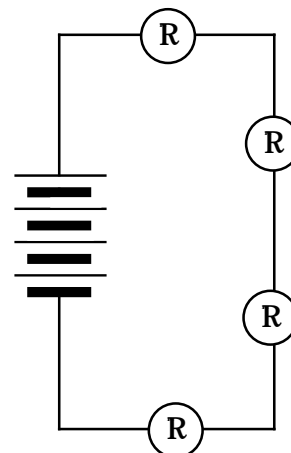

Figure 5.1
Set up the circuit shown in Figure 5.1 using four D-cells.
2. Draw starbursts on the bulbs in Figure 5.1 to show the brightness of all bulbs. Draw arrowtails nearby to show the flow rates causing the observed brightness. Color code the wires to show the pressure differences that cause the flow rates.
3. Explain why you colored the wires in Figure 5.1 the way you did.
In Figure 5.1, all wires had YELLOW (normal) pressure before they were connected in the circuit. The pressure in two of the wires changed to RED and BLUE because they were connected to the (+) and (-) battery terminals. But the colors of the wires that don't touch the battery can't be explained so easily. These colors show